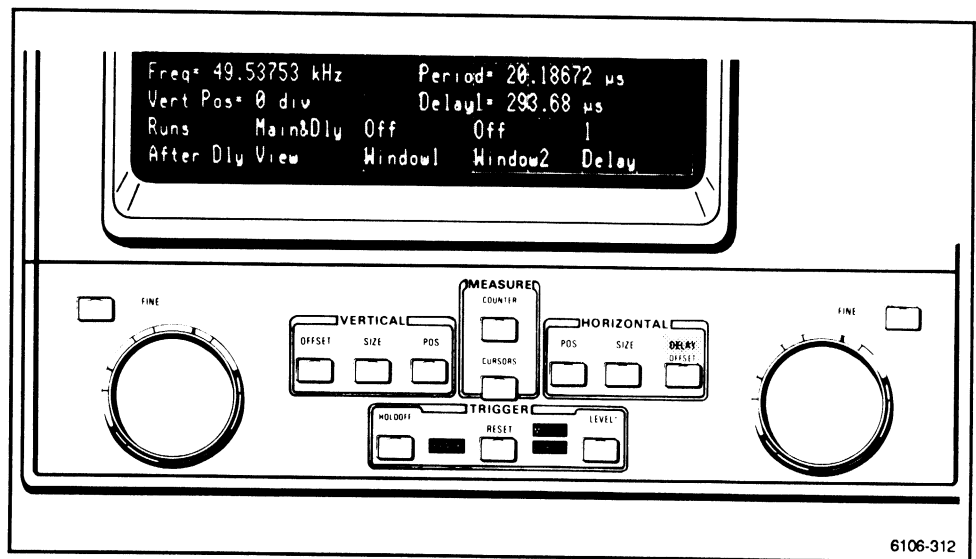

Figure 2-113. Adjusting the DELAY.
- Press the HORIZONTAL DELAY button and set the *After Dly* selection to **Runs**. (**Trig'd** may be used with the proper setting of the Delayed Trigger Level, if desired). Next touch *Delay* to read **1**, and turn the right knob to align the gate pulse within the desired measurement region. (See Fig. 2-113.)